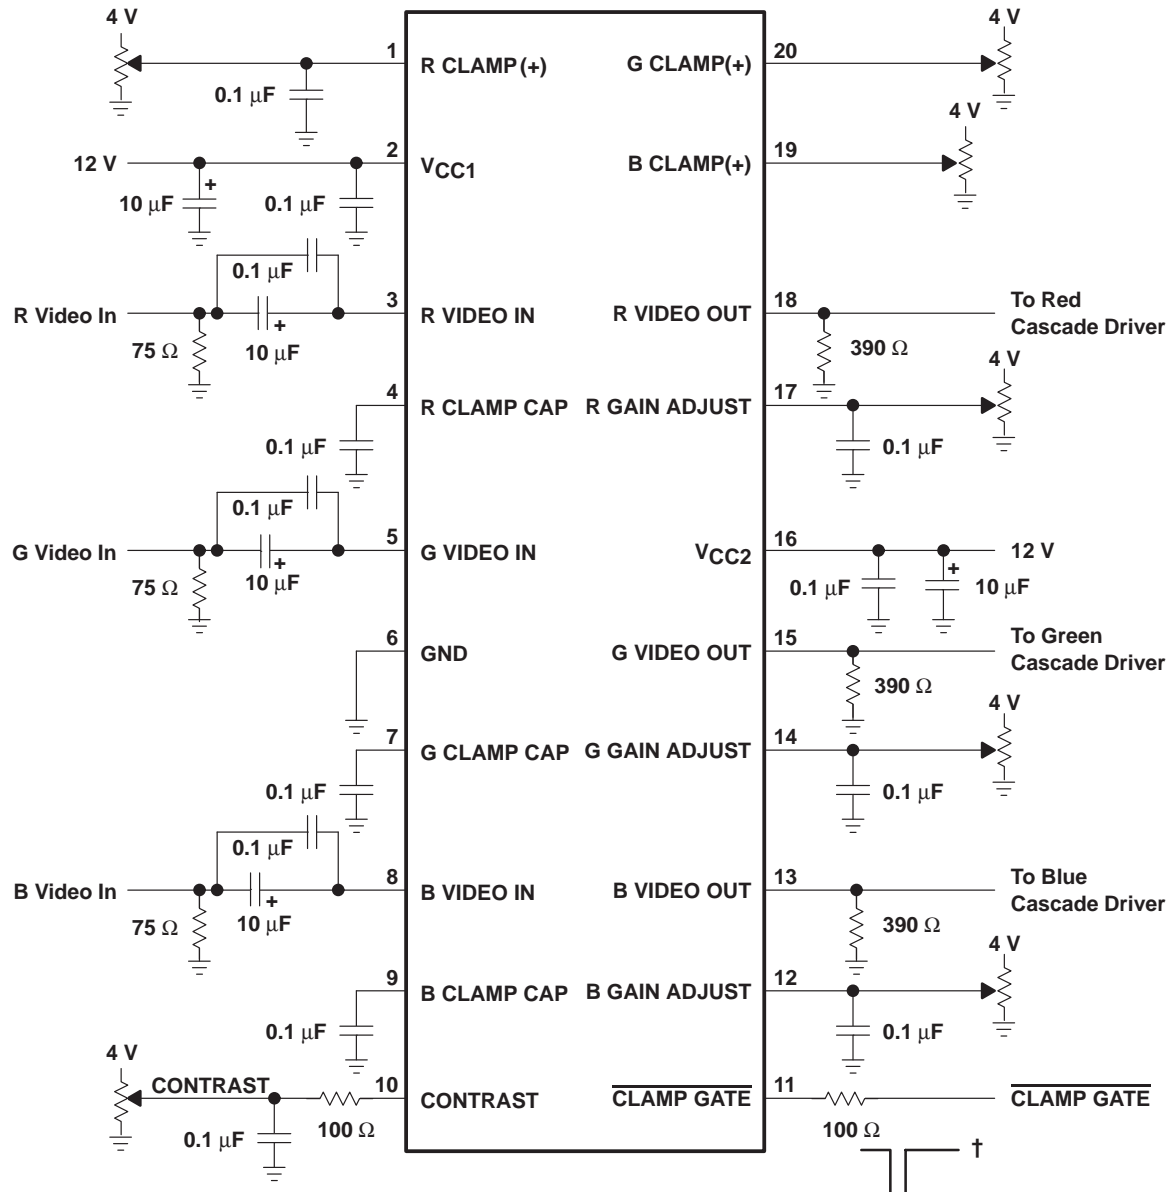

Figure 2. Application Circuit
**electrical characteristics at 25°C free-air temperature range,  $\overline{\text{CLAMP GATE}} = 0$  V,  $\text{CLAMP}(+) = 2$  V,  $\text{CONTRAST} = \text{R,G,B GAIN ADJUST} = 4$  V,  $V_{CC1} = V_{CC2} = 12$  V (see Figure 2) (unless otherwise noted)**